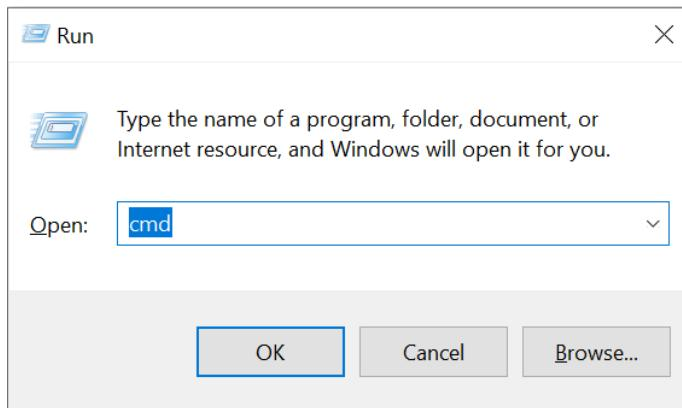
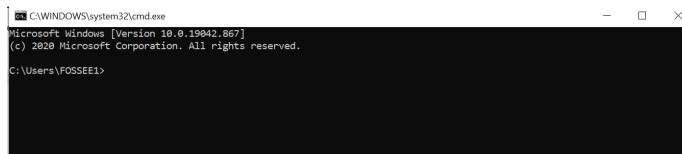

Figure 3.25: Launching the Command Prompt on Windows
Figure 3.26: Command Prompt on Windows
1. Launch the Command Prompt. Press the Windows key+R together. A window, as shown in Fig. 3.25 appears. In the text box adjacent to Open, type cmd, and press Enter. The Command Prompt, as shown in Fig. 3.26 appears. By default, it points to the home directory.
1. Launch the Command Prompt, as shown in Fig. 3.25.